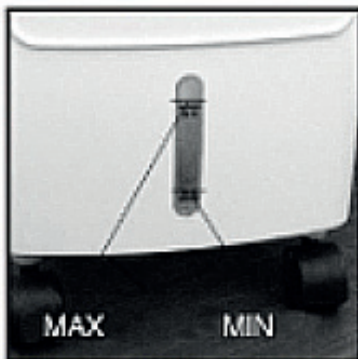

Fig 2
- a - Pay attention to the level of water tank when add water.(Fig 2)